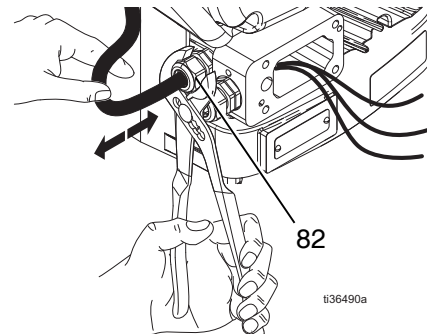

FIG. 13: Remove Fan Wires
1. Route wires through fan cord grip (82) attached to driver (see FIG. 13 on page 15).
5. Tighten fan cord grip (82) (see FIG. 13 on page 15).